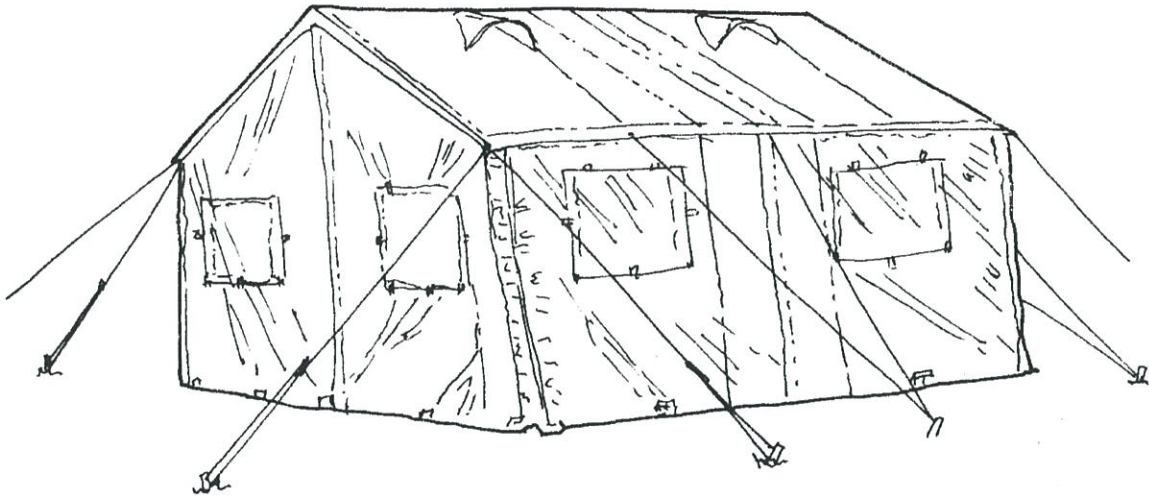

Figure 5-1 — Expandable Tent 14 ft x 14 ft
- The Expandable Tent 14 ft x 14 ft is primarily used for Sleeping Accommodation (Fig 5-1).